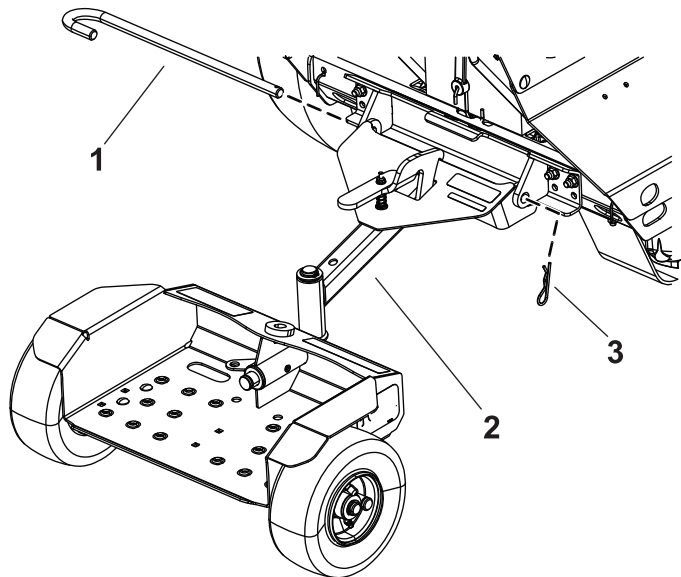

Figure 3
2. Attach the sulky to the bracket using the pivot pin and hairpin cotter (Figure 3).